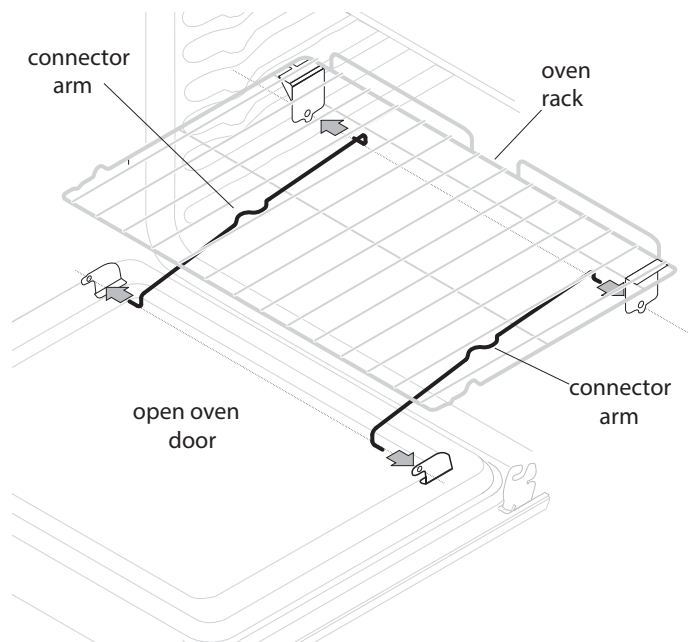

Figure 18: Assembly of the Effortless™ oven rack
4. Assemble one connector arm at a time. With the oven door open and the oven rack in place, install one end of the connector arm to the hole in the door connector bracket (Figure 18) and the other end in the hole in the rack connector bracket (Figure 18). The oven rack may need to be adjusted in or out in the rack position to match the length of the connector arm.